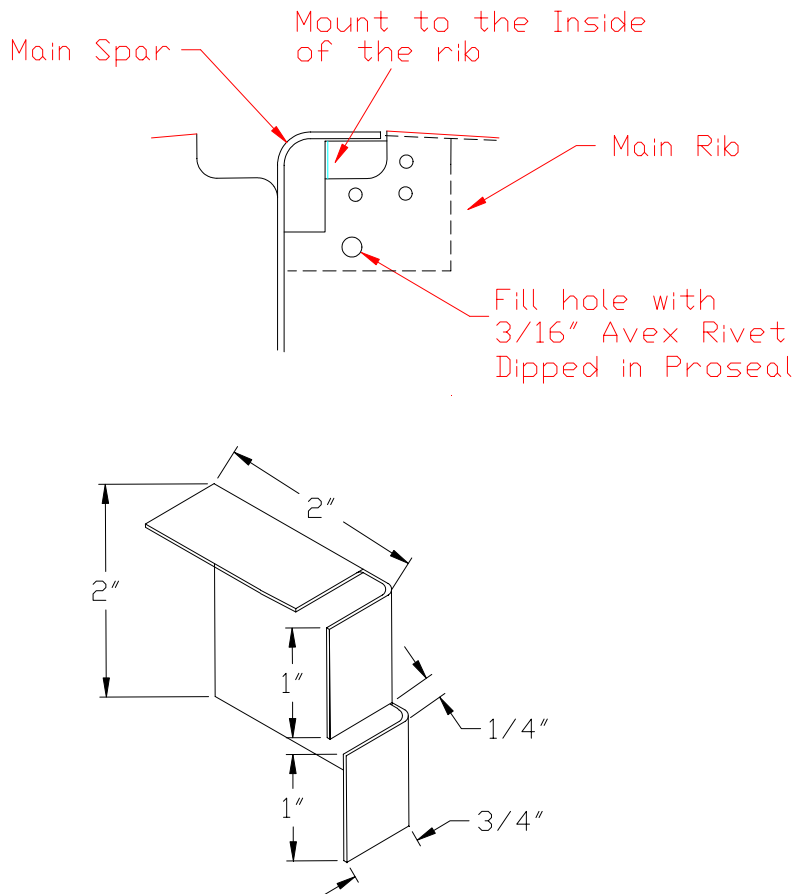

Figure 8.22.3
4) Where the outboard solid Wing Rib is cut away for the Spar Cap bend up a Corner Bracket as in Figure 8.22.3.